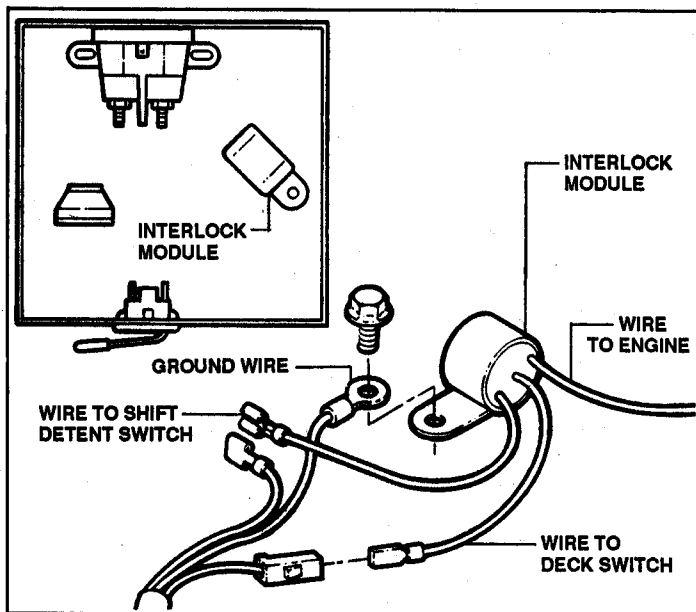

FIGURE 6.13
7. You should have found the problem by now. Replace the bad part and reconnect the components. See Figure 6.13.